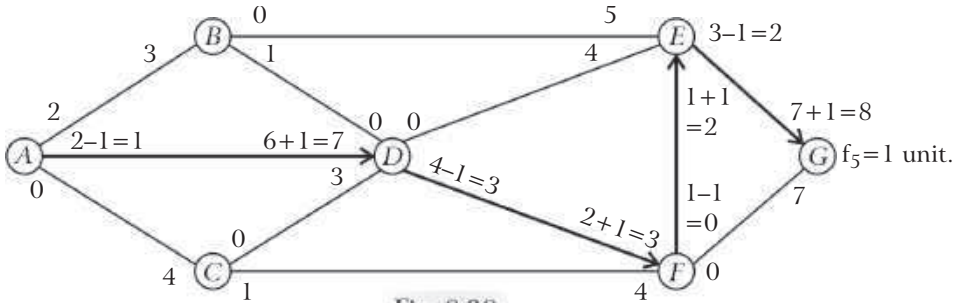

Fig. 8.38
Step 7: Now consider the route $A - D - F - E - G$ (see fig. 8.38). Then proceeding as in step 2 and 3, we get the following network (residue graph) fig. 8.38 and max. flow in this route $f_5 = 1$ unit.
Step 8: Now from the fig. 8.38, we note that we can not consider any other route for the flow from A to G, as the capacity of flow of at least one arc in every route is exhausted current capacity (*i.e.* reduces to zero). Thus the algorithm terminates.